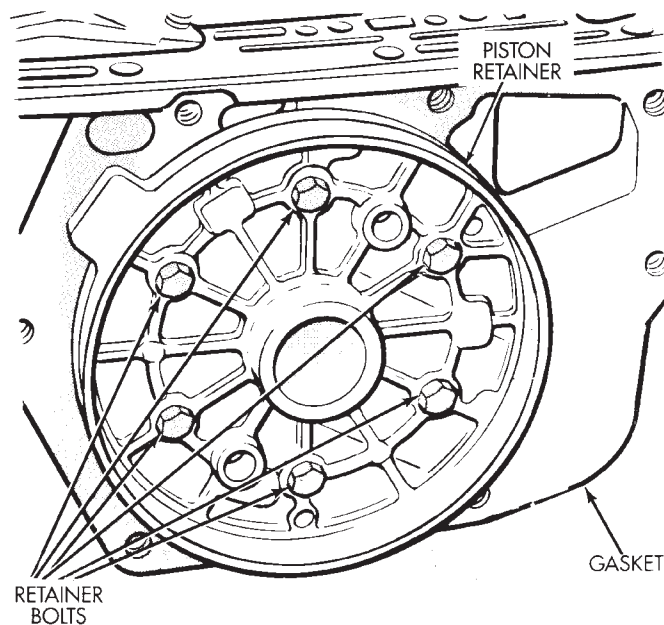

Fig. 153 Aligning Overdrive Piston Retainer
(14) Position overdrive piston retainer on transmission case and align bolt holes in retainer, gasket and case (Fig. 153). Then install and tighten retainer bolts to 17 N·m (13 ft. lbs.) torque.